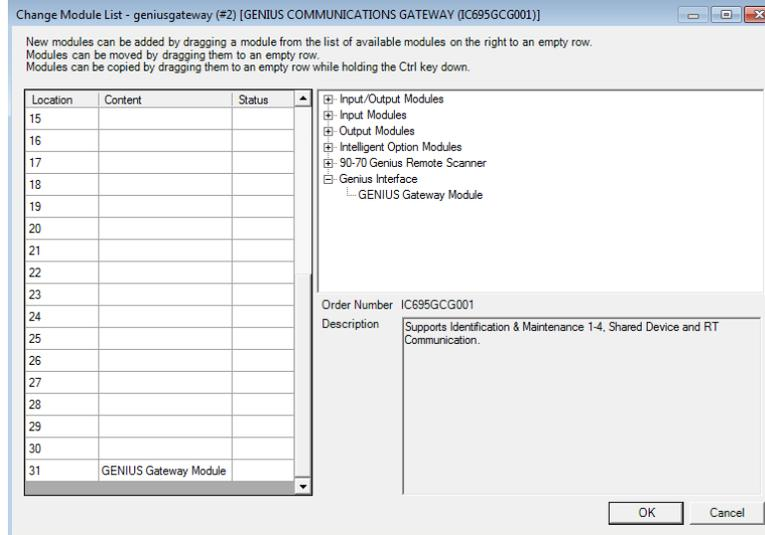
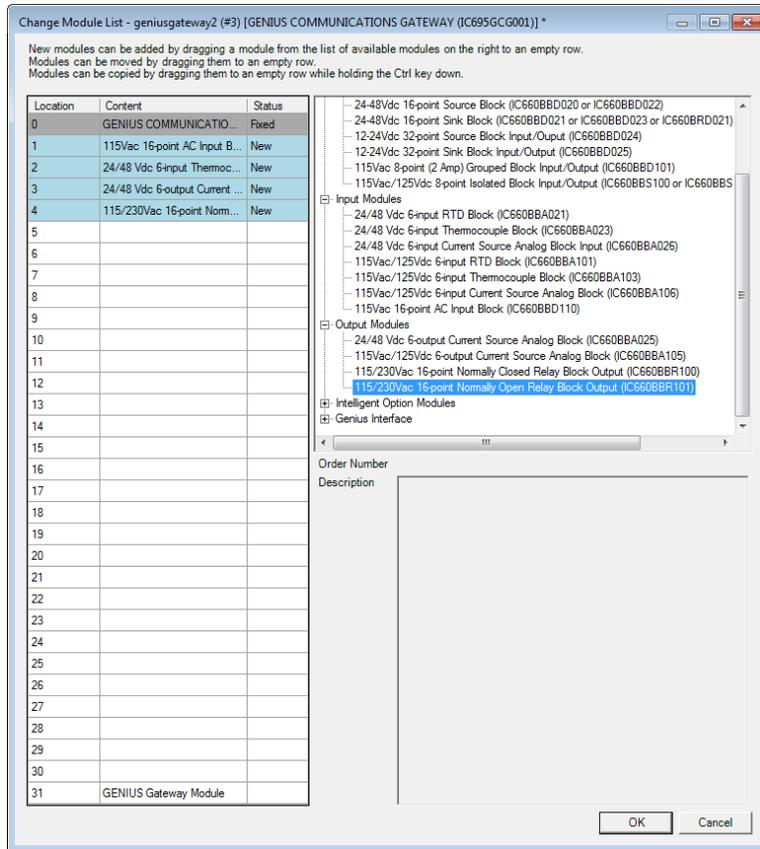

Figure 16: Change Module List for Genius Gateway GCG001
Figure 17: Populating the Genius IO Devices to be Controlled by the Genius Gateway
10. Add Genius I/O devices to the Genius Bus by right-clicking **geniusgateway...** and selecting **Change Module List....** (see Figure 16). If the application is a retrofit of an existing Genius solution, be sure to set all I/O reference addresses to match those of the Genius configuration being incorporated. To ease confusion, it is also recommended that the Genius Devices be assigned the same serial bus addresses (Location column) as had been assigned in the system under retrofit.
11. Select individual Genius I/O devices from the right-hand panel of Figure 16 and then drop them into the appropriate location row on the left-hand side, resulting in Figure 17.
15. Once all the Genius Devices have been populated onto the Genius Bus topology as shown in Figure 17, click the **OK** button to save that portion of the configuration.